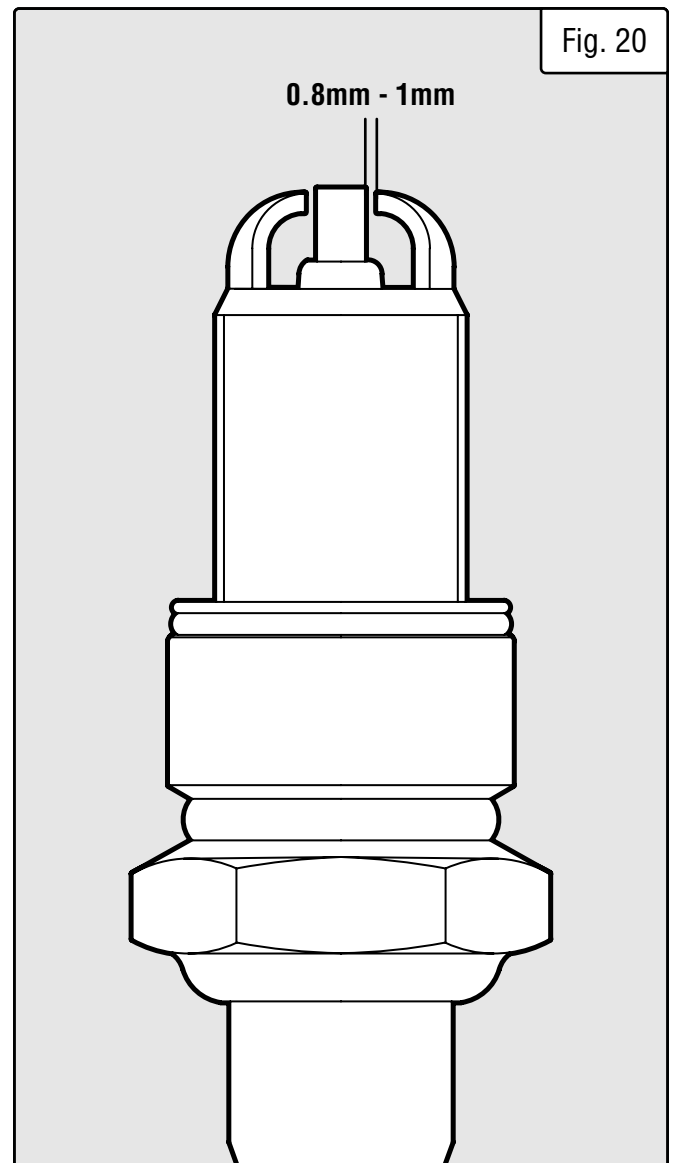

Fig. 20
5. Measure the plug gap with a spark plug gap gauge. The gap should be **0.8mm to 1mm (0.031 in. to 0.039 in.)** (Fig. 20). Carefully adjust the gap if necessary.